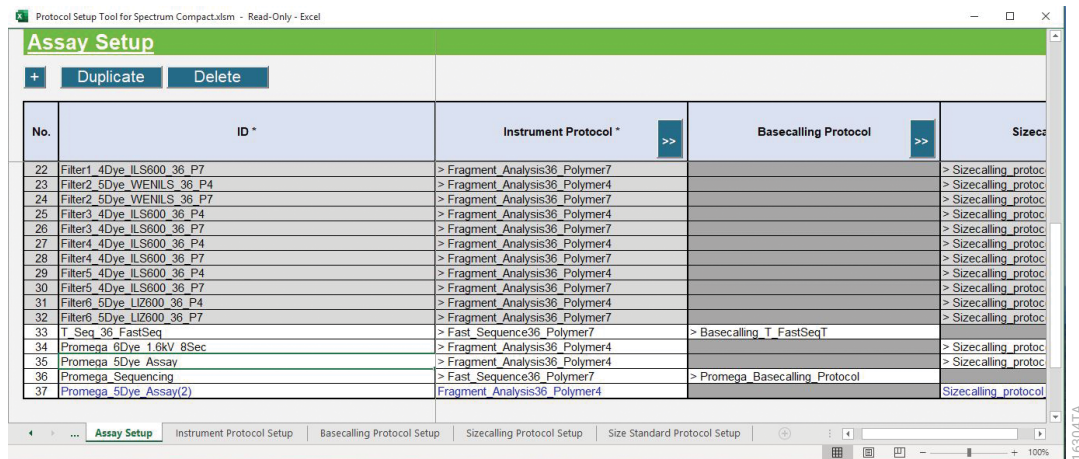

Figure 237. 'Assay Setup' worksheet with Double Arrow button.
7. It is also possible to edit specific settings within the instrument, basecalling or sizecalling protocols selected for an assay. Select **Right Double Arrow** in the column header for the desired instrument, basecalling or sizecalling protocol to be edited within the assay (Figure 237).